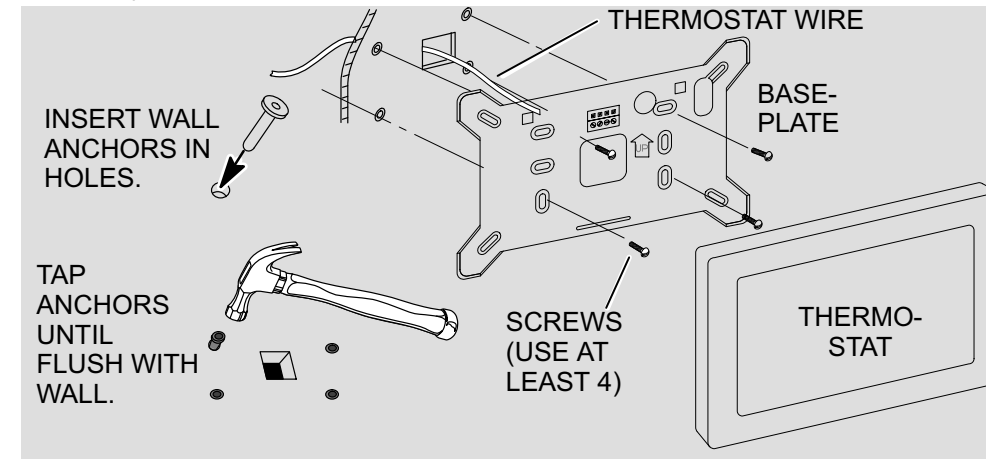

Figure 2. On-wall mounting
- B.** Drill (4) 3/16" holes in wall for anchors. Insert wall anchors in holes (see figure 2) and tap the anchor until flush with the wall.